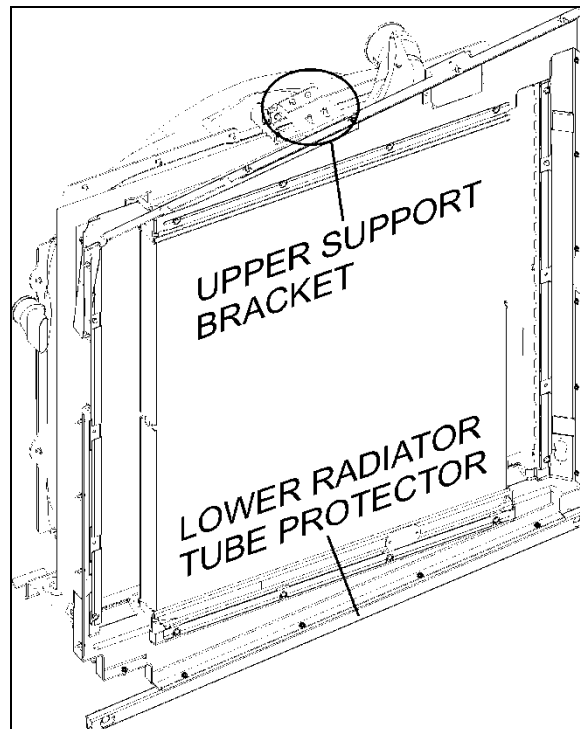

FIGURE 22: UPPER SUPPORT BRACKET & TUBE PROTECTOR
12. Remove the upper radiator assembly support bracket (Figure 22).
13. Remove the lower radiator assembly tube protector from the lower section (Figure 22).